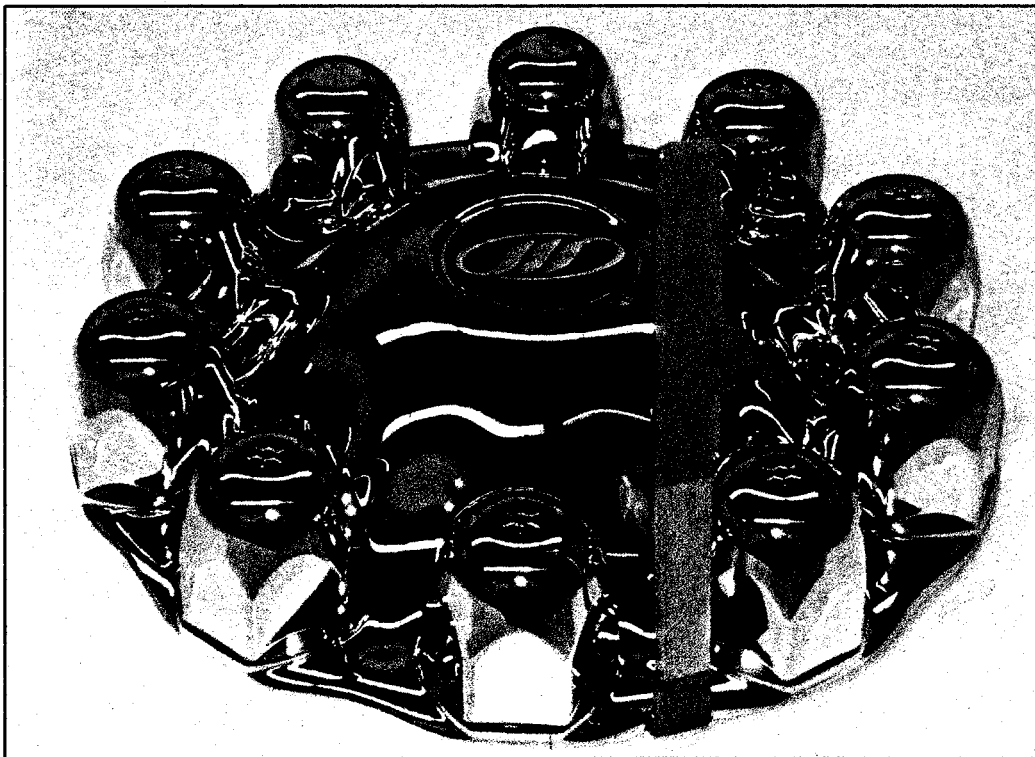

Figure 1. Front / tag axle one-piece hub cover with removal tool.
If coach is not equipped with hub covers (refer to Figure 1 or 2), proceed to Step 4.
2. Locate the one piece hub cover on the front axle wheel end. Visually locate the notch on the side of the hub cover. Insert the hub cover removal tool, reference p/n 15-01-1216, into the notch on the side of the hub cover (refer to Figure 1). Using the removal tool, in a rotating action carefully separate the hub cover away from the wheel face. Place aside to be re-installed at a later step in this procedure.